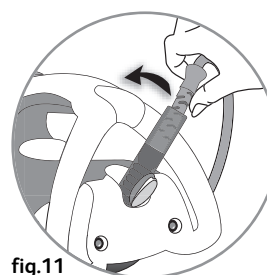
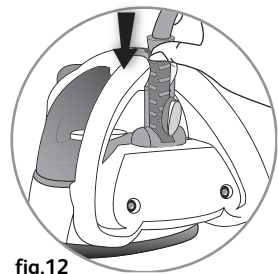

fig.11
fig.12
- To wind the cord around the heel of the iron, slot the Easycord system into the notch (**fig.11**). Take the end of the Easycord system and press to make the flexible part go back into the base (**fig.12**). Wind the cord.